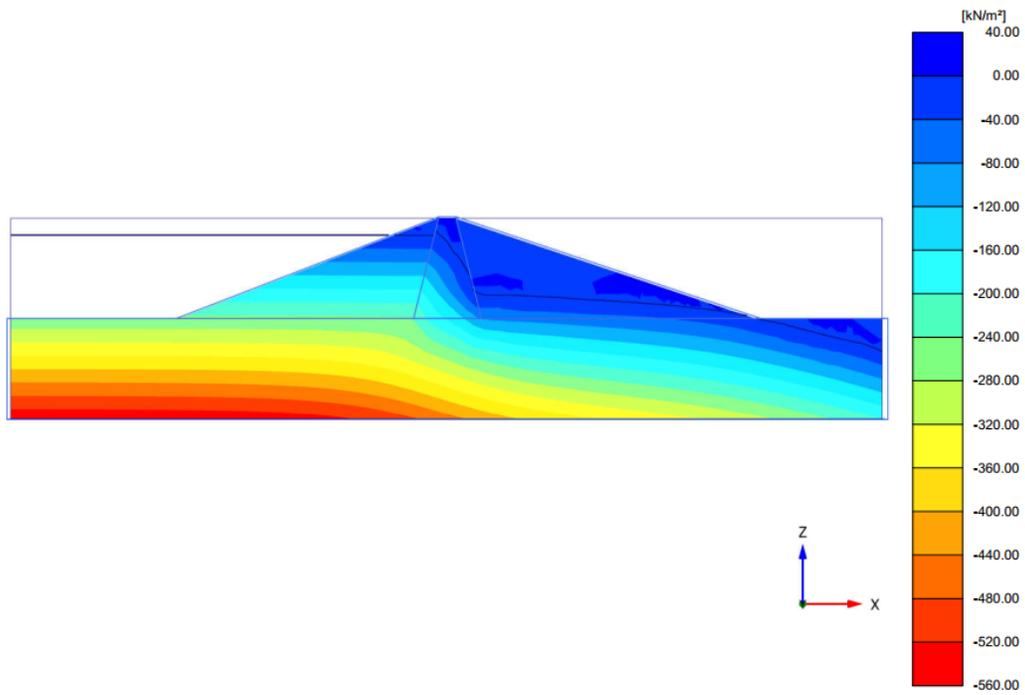

Figure 112: Pore water pressure distribution for high reservoir level (Initial phase)
- The situation with a high (standard) reservoir level - See Figure 112 (on page 141).